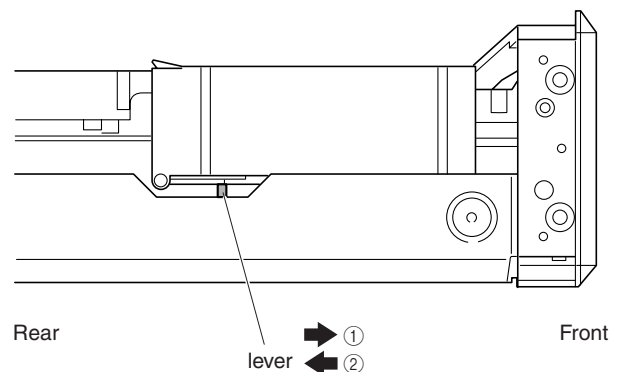

Fig. 4
- Move the lever under the left side face of the mechanism toward the front side first and then toward the rear side. The drawer is unlocked and opens by about 5 to 10cm. (Fig. 4)